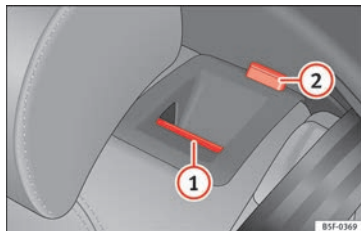

Fig. 152 On the rear seat backrest: release catch (1); red mark (2).
- Push the unlock button »» Fig. 152 (1) forwards and at the same time lift the backrest.
- The rear seat backrest is not engaged when the red marking of the button (2) is visible.
The rear seat backrest is not engaged when the red marking of the button » Fig. 152 ② is visible.